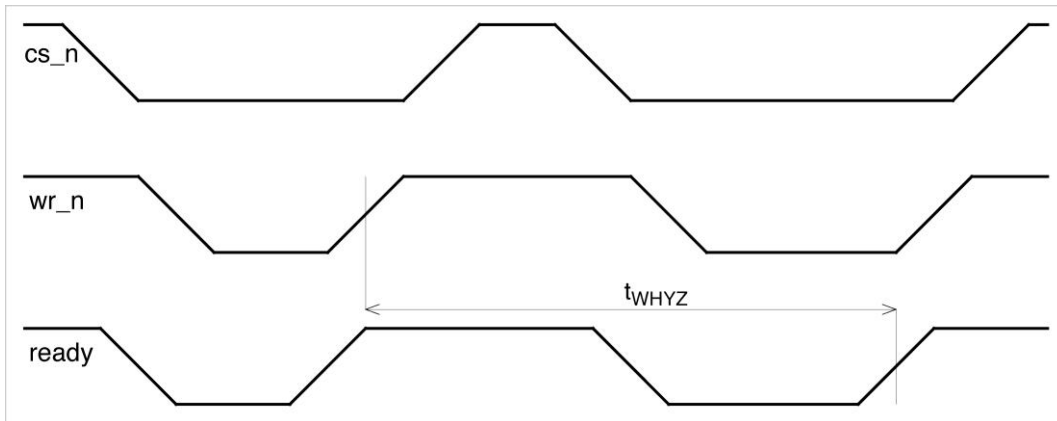

Figure 10. Mode 0 and Mode 1: Ready Timing for Write Cycle with Write Active
- Mode 0 and Mode 1: Ready Timing for Write Cycle with Write Pending (Table 10/Figure 10)